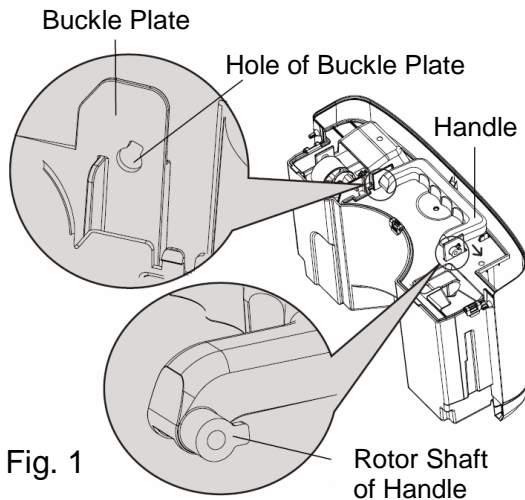

Fig. 1
- (1) Direct the rotor shaft of handle to the hole of buckle plate. Pull the bucket plate at the handle side by following the arrow direction. Remove the handle. (shown in Fig. 1.)